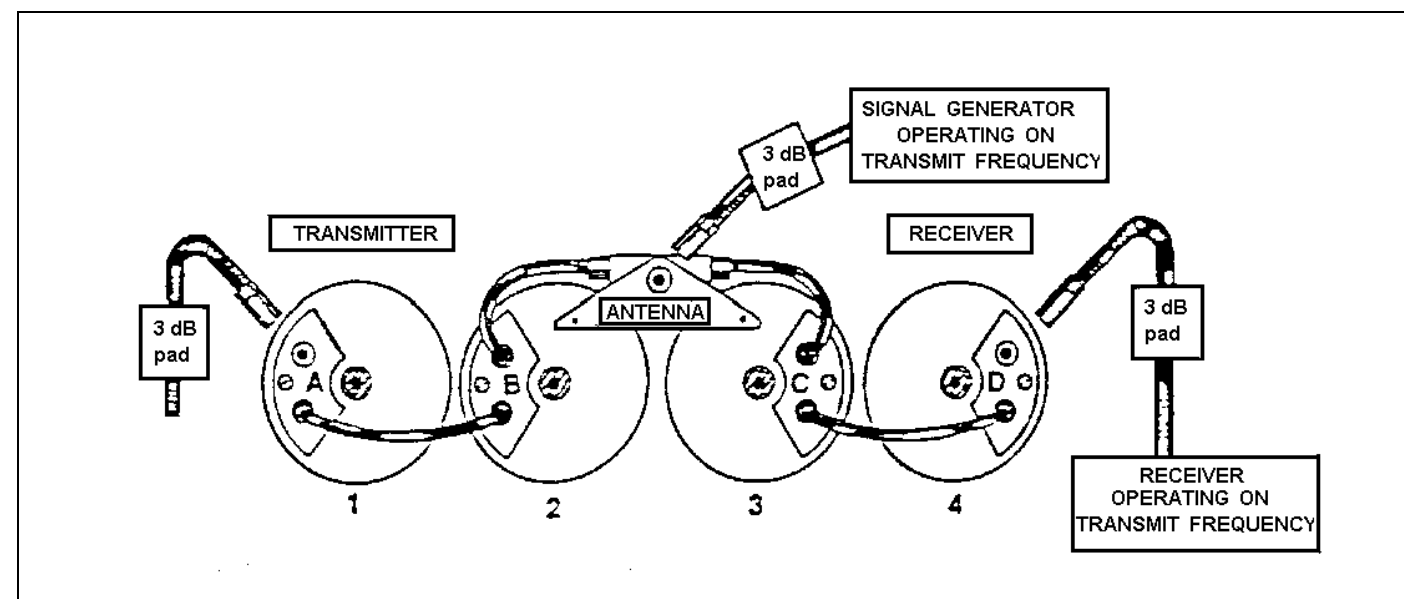

Figure 8
12. Connect the equipment to the duplexer as shown in Figure 8.